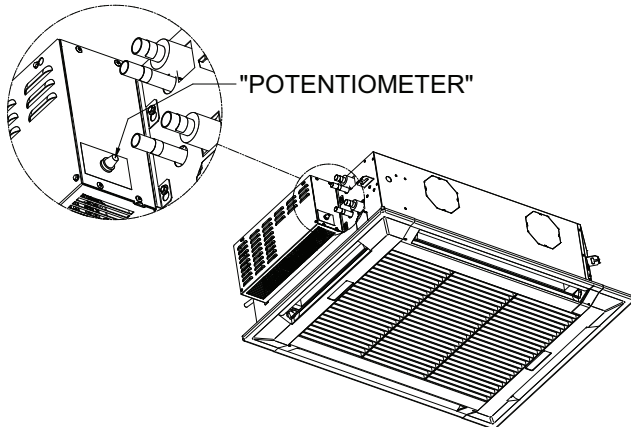

Fig. 70 — Potentiometer Location
- a. A factory installed potentiometer is located on the side of the control box. See Fig. 70. This potentiometer adjusts the fan speed and airflow of the unit.